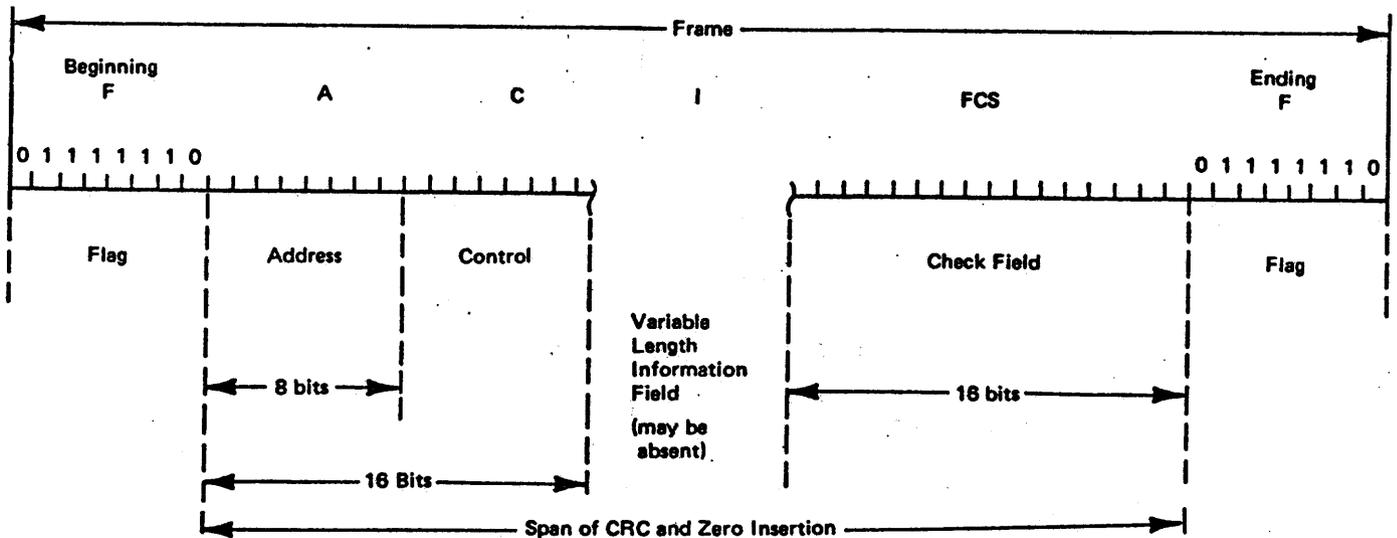

Figure 1. Frame Format (courtesy of International Business Machines Corporation).
5. In SDLC protocol, communication is performed via frames. Frames define a bit stream into meaningful blocks. Each frame is bounded (delimited) by a beginning and an ending flag (figure 1). The flag bit pattern is 01111110_2 ($7E_{16}$).